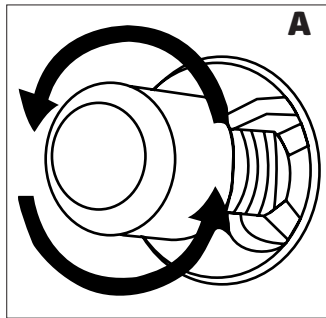
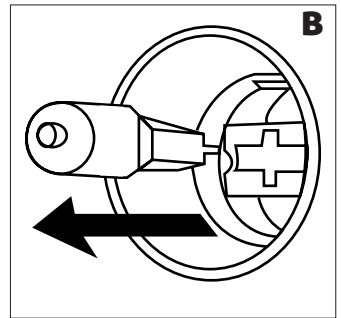

Figure 146
Figure 147
3. Then remove the oven lamp by turning it (see fig. 146) if it is type **A**, or by pulling it (see fig. 147) if it is type **B**.